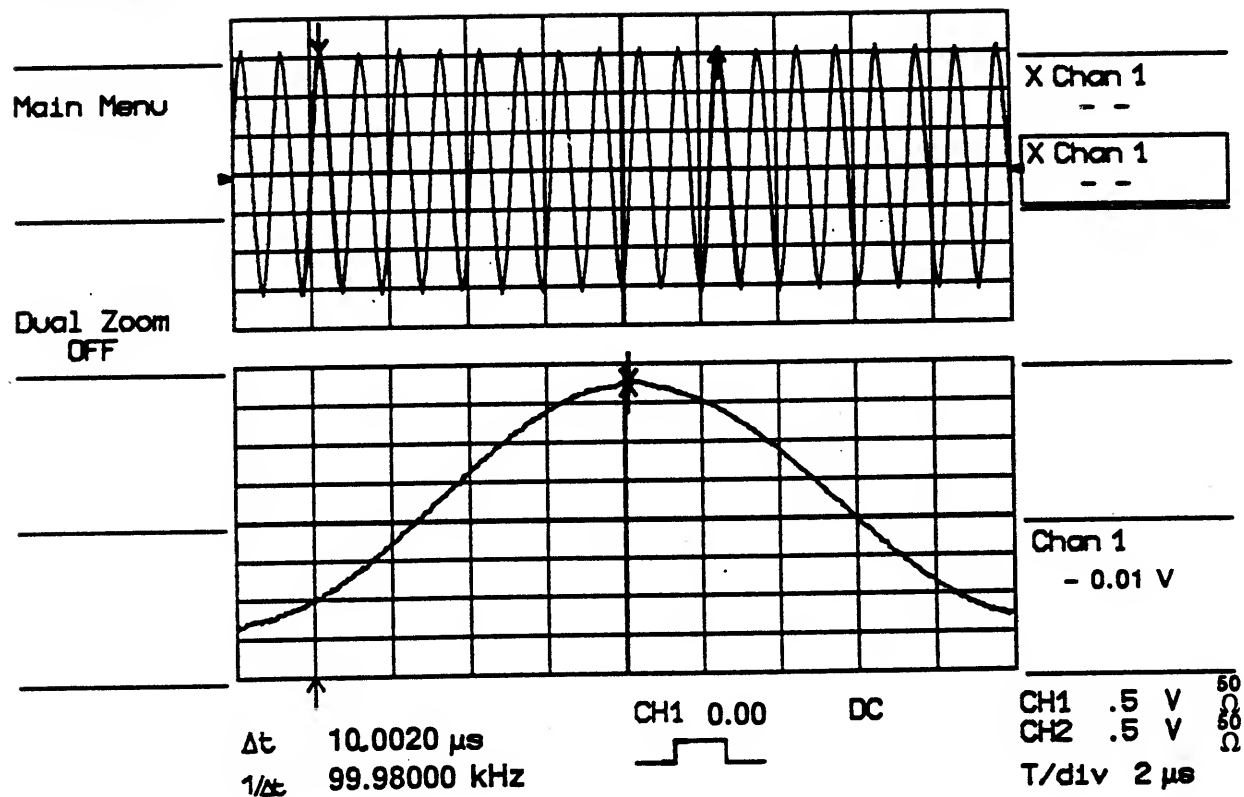

Figure 7: Aligned cursors
- Put the DIFFERENCE cursor on top of the 13th period (check on upper grid) and adjust alignment of the two cursors (check on lower grid), see Figure 7.